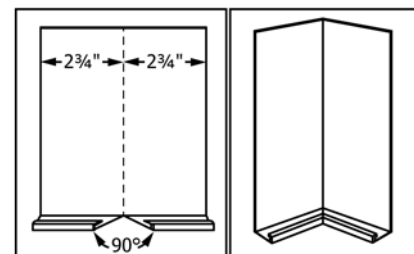

FIG. 37 Prefabricating Corner Cap
11.5.2 Prefabricate or fashion corner caps from a piece of fascia cover. Cut a 5½-in. (140-mm) length of fascia cover and mark a vertical centerline on the back as shown in Fig. 37. Cut out a 90° section of bottom flange from the center, leaving 45° on each side. Using a hand seamer, fold along the centerline to form a right angle.